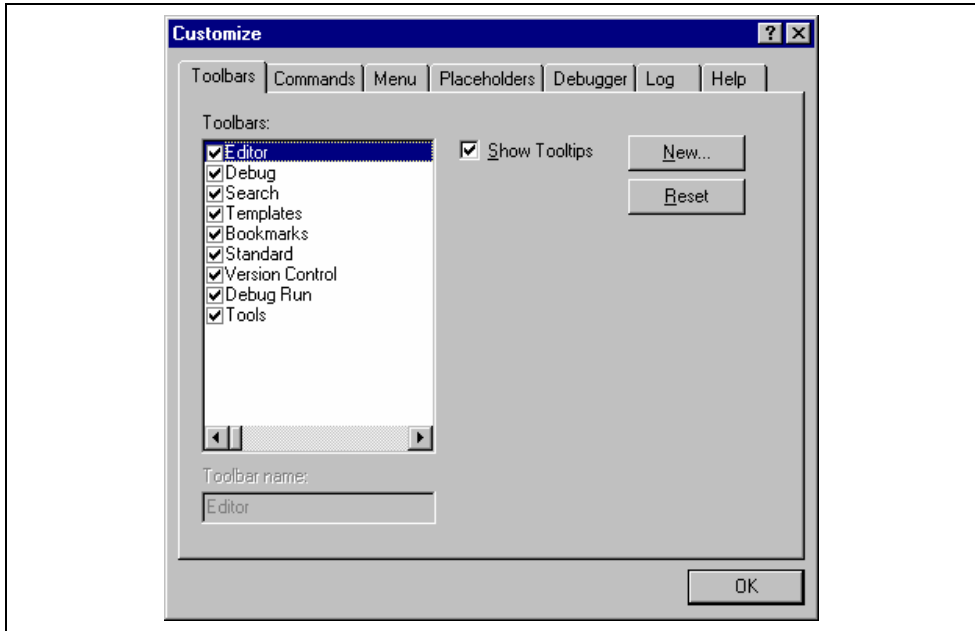
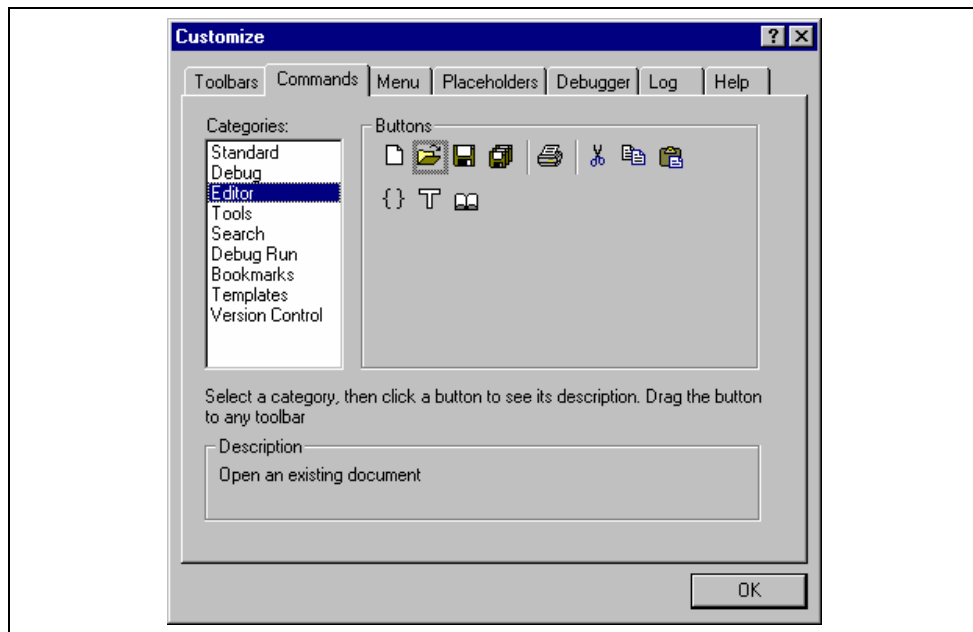
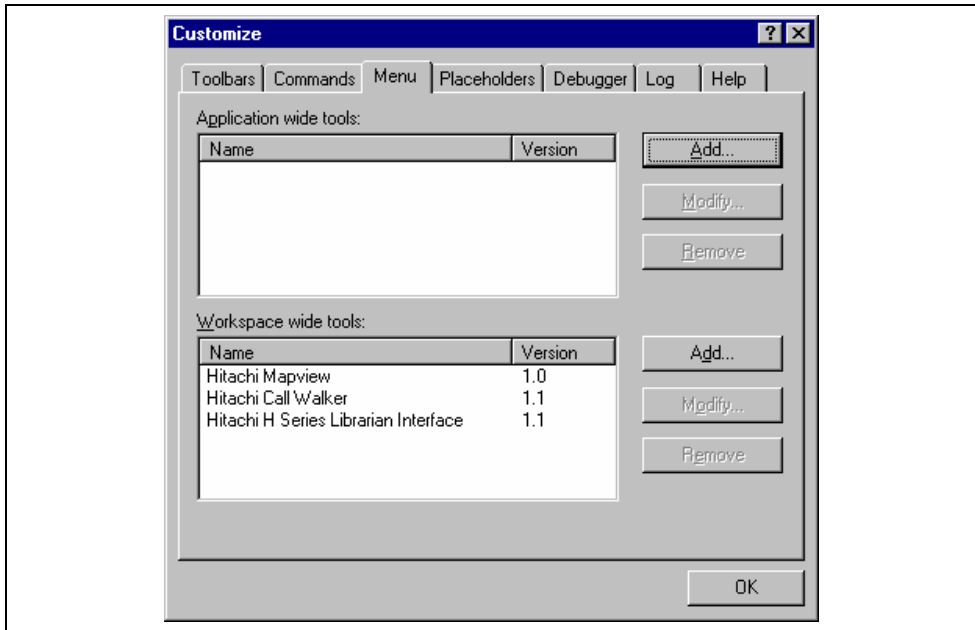
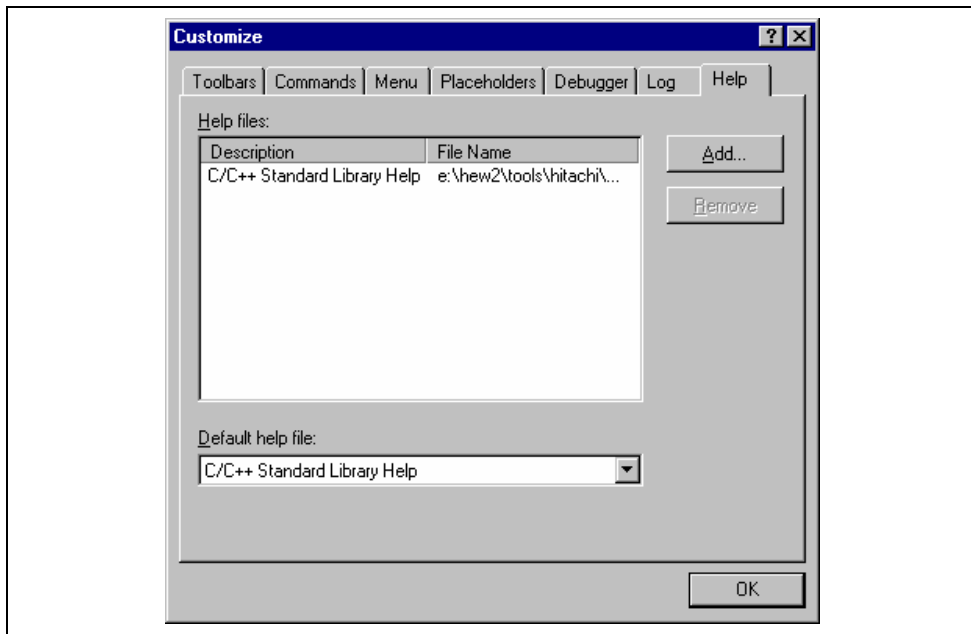

Figure 6.1: Customize Dialog Toolbars Tab
Figure 6.3: Customize Dialog Commands Tab
Figure 6.4: Customize Dialog Menu Tab
Figure 6.7: Customize Dialog Help Tab
The Hitachi Embedded Workshop provides 2 standard toolbars as detailed in chapter 1, “Overview”. In addition to these, you may also construct your own toolbars via the “Customize” dialog (figure 6.1).
1. Select [**Tools->Customize...**]. The dialog shown in figure 6.1 will be displayed.
1. Select **[Tools->Customize...]**. The dialog shown in figure 6.1 will be displayed. Select the “Commands” tab (see figure 6.3).
1. Select [**Tools->Customize...**]. The dialog shown in figure 6.1 will be displayed. Select the “Commands” tab (see figure 6.3).
2. Select the user-defined toolbar from the “Toolbars” list, and the “Reset” button in figure 6.1 changes to the “Delete” button. Then click the “Delete” button.
1. Select **[Tools->Customize...]**. The dialog shown in figure 6.1 will be displayed. Select the “Menu” tab (see figure 6.4). The first thing for you to decide is whether you are adding a global application wide tool (“Application wide tools:”), which will be available to all of your workspaces. Or whether you wish to add a workspace wide tool (“Workspace wide tool:”), which is only valid for the current workspace. Once you have made the choice choose the relevant section of the dialog.
1. Select [**Tools->Customize...**]. The dialog shown in figure 6.1 will be displayed. Select the “Menu” tab (see figure 6.4).
1. Select [**Tools->Customize...**]. The dialog shown in figure 6.1 will be displayed. Select the “Help” tab (see figure 6.7).